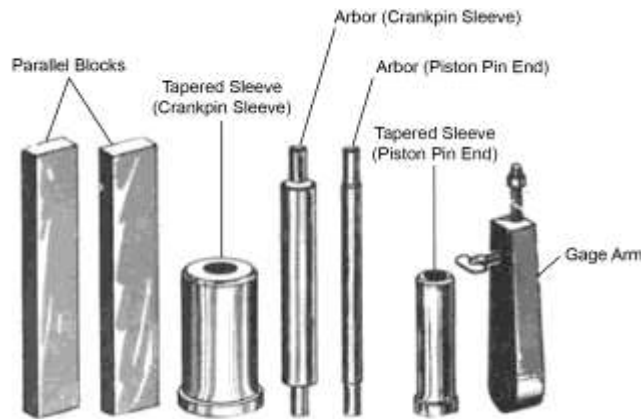
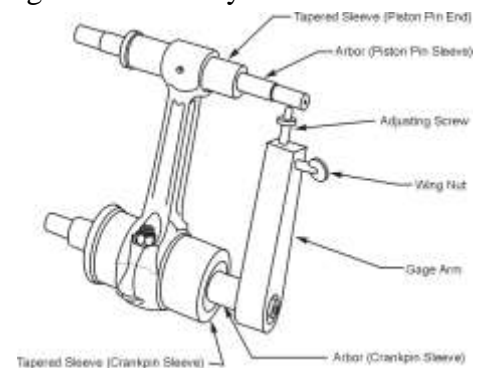

Figure 37
Figure 38
For the parallelism check, measure the distance between arbors (Figure 37). For exact parallelism or alignment, the distances measured on both sides are to be the same. For the squareness check, use a feeler gage to measure the clearance at the four check points where the arbors rest on the parallel blocks (Figure 38). Compare the clearance between each arbor and the parallel blocks against the values in the latest revision of the *Service Table of Limits - SSP-1776*. If out of tolerance, replace the connecting rods and examine the crankshaft to make sure the crankshaft is not damaged.
NOTICE: The Connecting Rod Parallelism and Squareness Gage P/N 64530 (Figure 37) is necessary for this check.
- B. Insert the tapered sleeves (Figure 38) of the Connecting Rod Parallelism and Squareness Gage P/N 64530 in the bearing holes in the connecting rod.
- D. Install the gage arm on the arbor as shown in Figure 38.